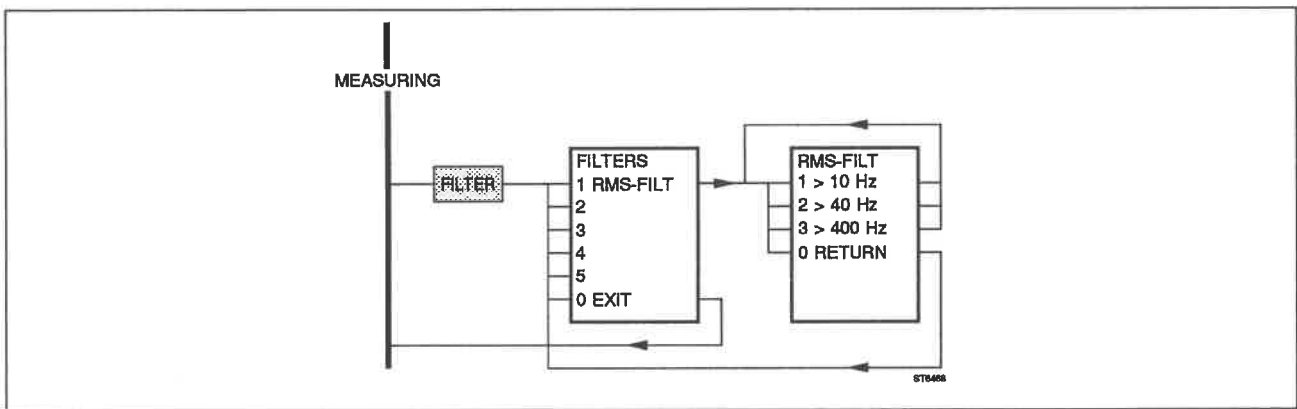

Fig. 4.31 RMS Filter menu.
- press  to invoke the filter menu (Fig. 4.31).